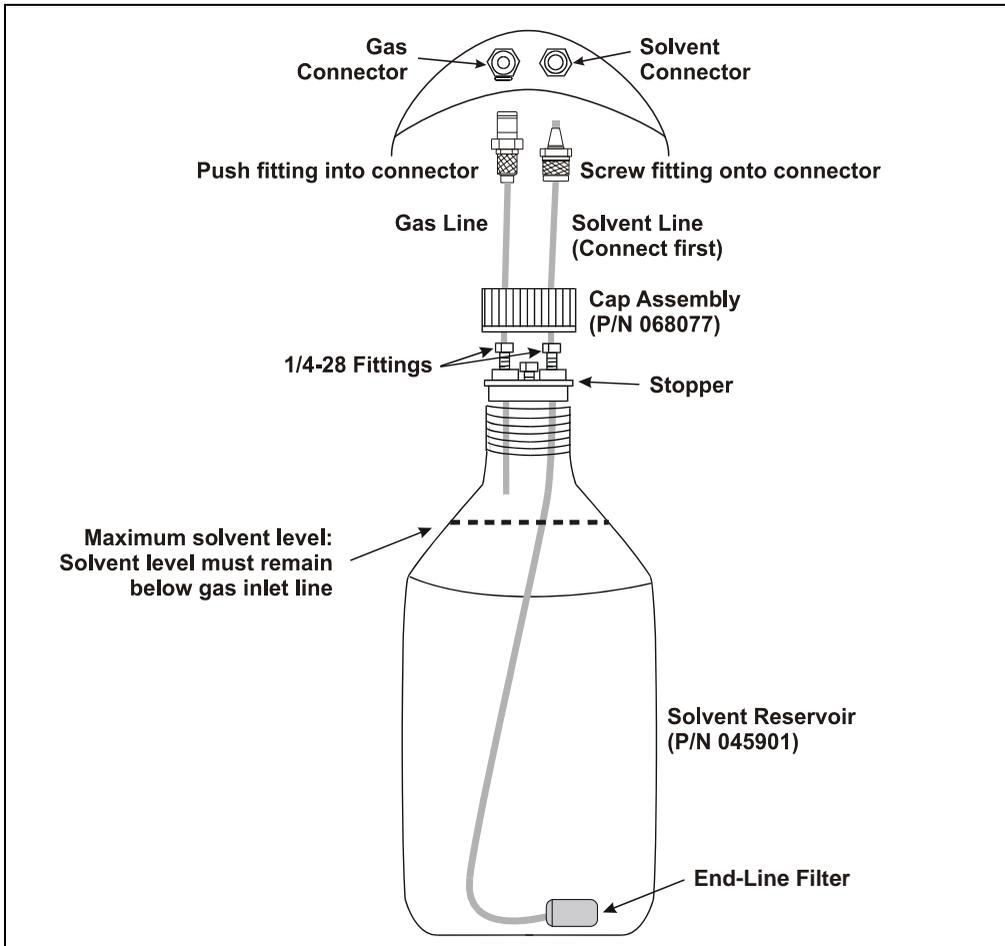

Figure 3-1. Solvent Reservoir Connections
Never fill the solvent reservoir or disconnect the tubing connections to the solvent and gas connectors (see Figure 3-1) during a run or rinse cycle. At these times, the solvent reservoir is pressurized. If you remove the bottle cap when the solvent reservoir is pressurized, the Dionex ASE 150 may not operate to specification.
2. Fill the solvent reservoir with prepared solvent to the level indicated in Figure 3-1.
4. Insert the solvent and gas lines extending from the underside of the bottle cap assembly into the bottle (see Figure 3-1). Make sure the end-line filter on the solvent line rests on the bottom of the bottle.